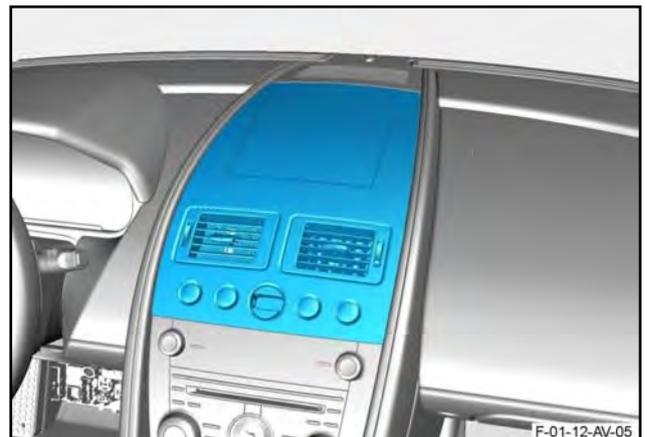

Figure 18
25. Remove the veneer bezel (refer to Figure 18).